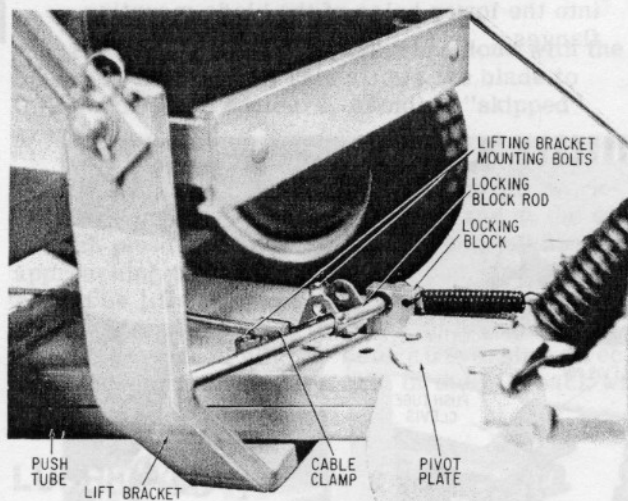

Figure 2
3. Secure the lift bracket to the bottom side of the push tube with bolts, lockwashers and nuts as shown in Figure 2.
6. Pass the loose end of the blade angling cable through the center of the implement mounting bracket mounting arms, under the front axle but over the lower bar of the implement mounting bracket. Place the formed loop in the angling cable over the free end of the locking-block rod and slide it down to the locking block. See Figure 2.
7. While holding the locking block rod to the rear, place the wire portion of the cable in the slot of the cable clamp and slowly release the locking block rod until the sheath of the cable engages the cable clamp. See Figure 2.